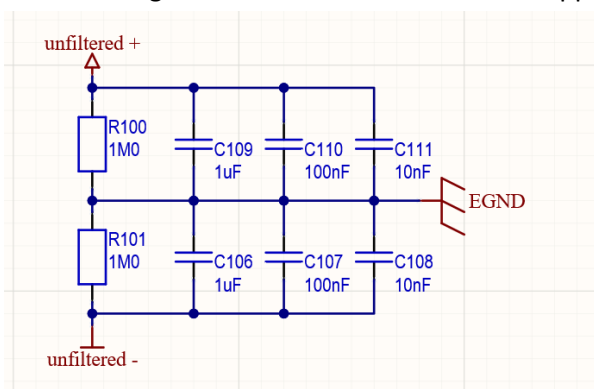

Figure 9: Defining EGND
- Place gold-plated pads around the mounting holes as shown in figure 9, on the top and the bottom layer.